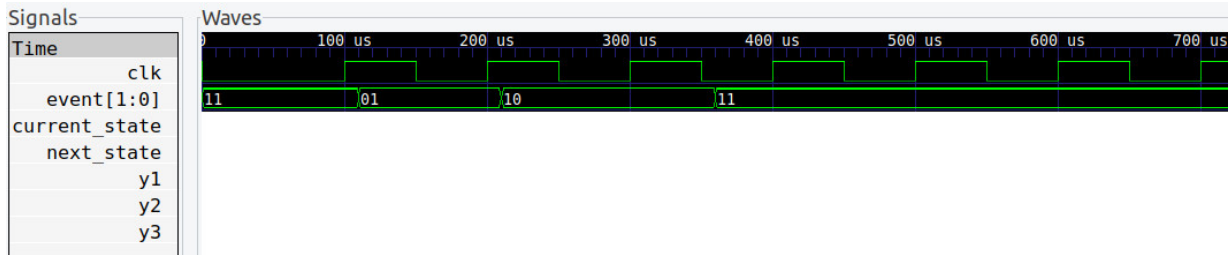

Figure 2: Clock and event input of the FSM.
b) Complete the waveform of *Figure 2*.